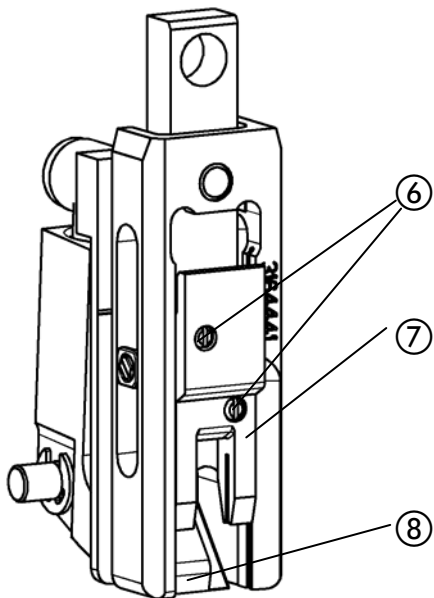

Fig. 39
- Fig. 39 -
- Unscrew setscrew ⑥ and push the driver ⑦ down out of the bender.
- Press shoe tongue ⑧ back and push driver into bender from beneath.